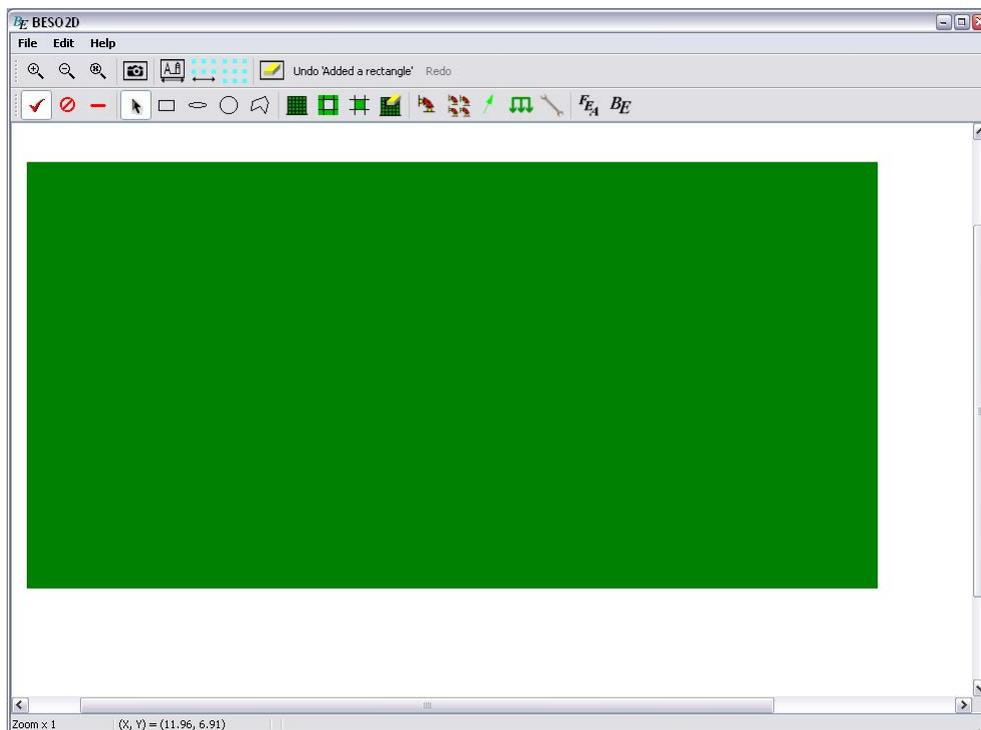

Figure 2 A rectangle is drawn in the BESO2D window.
- Draw a rectangle: click on the  button in the **Draw/Run Toolbar**, locate the mouse at the position of (1.0, 2.0) (see the current position of the mouse in the Status bar), press the left mouse button, drag the mouse to the position of (11.0, 7.0) and release the mouse. A rectangle is obtained in the display area as shown in Figure 2.